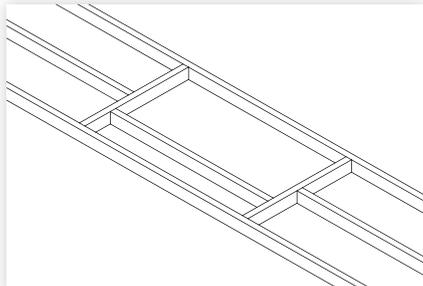

figure 9
2. Using timber of a compatible size to the existing ceiling framing (ie 90 x 45 or 140 x 45 H1.2 treated, machine gauged radiata pine), frame up the opening. It may be necessary to cut through some existing ceiling joists to achieve the required size. Ensure these are properly supported during and after cutting. Three possible arrangements are shown in figures 9, 10 & 11.